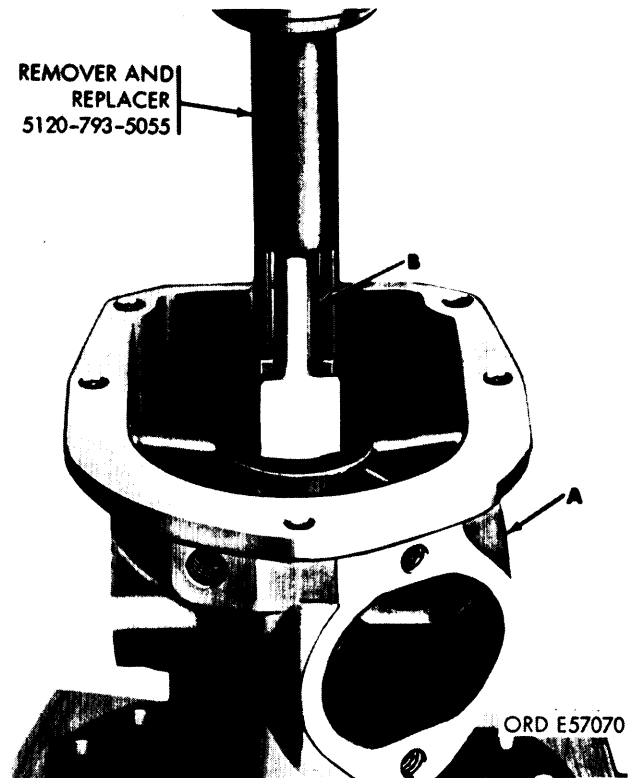

Figure 3-28. Pressing camshaft and associated parts from pump housing using remover and replacer 5120-793-5055.
b. Refer to figure 3-28. Place the pump housing (A) on bed of arbor press. Position remover and replacer on camshaft (B) and press the camshaft and associated parts from the pump housing.